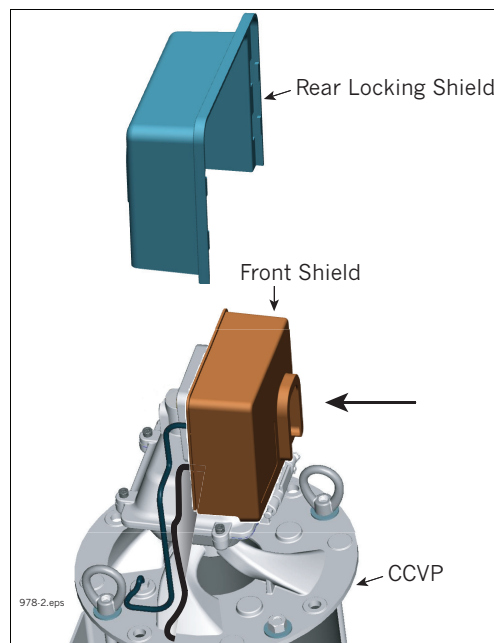

Figure 2. Place Front Shield over Vapor Valve Assembly
2. Install the Front Shield (333097-001) over the Vapor Valve Assembly as shown in Figure 2.